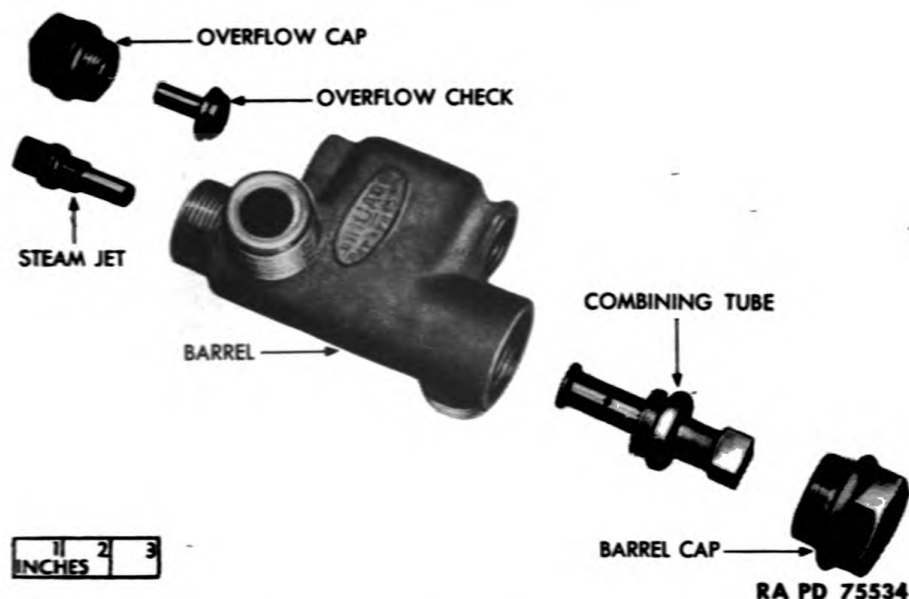

Figure 112 — Steam Generating Plant Water Injector — Exploded View
- (2) **DISASSEMBLY** (fig. 112).
- (3) **ASSEMBLY** (fig. 112).